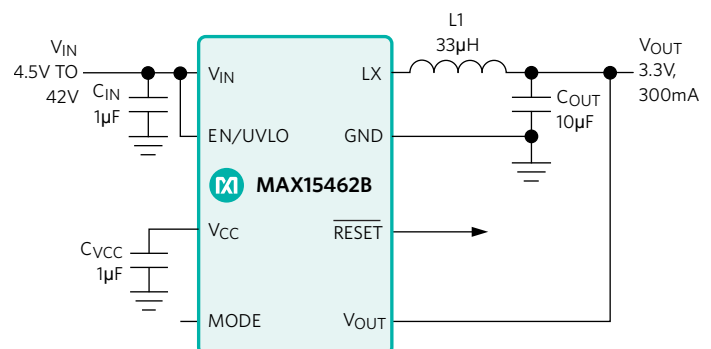

Figure 15. MAX15462B Typical Application Circuit
**Figure 15** shows the typical application circuit for the 5V fixed configuration—optimized for small PCB size—delivering 5V to a load up to 300mA. The MAX15462A version has a 3.3V fixed output voltage and the MAX15462C version supports adjustable output voltages.